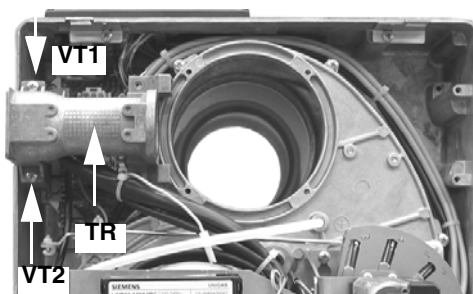

Fig. 18
- 6 Take the gas pipe **TR** off and put it in the new position fixing the screws **VT1** and **VT2** (Fig. 18).